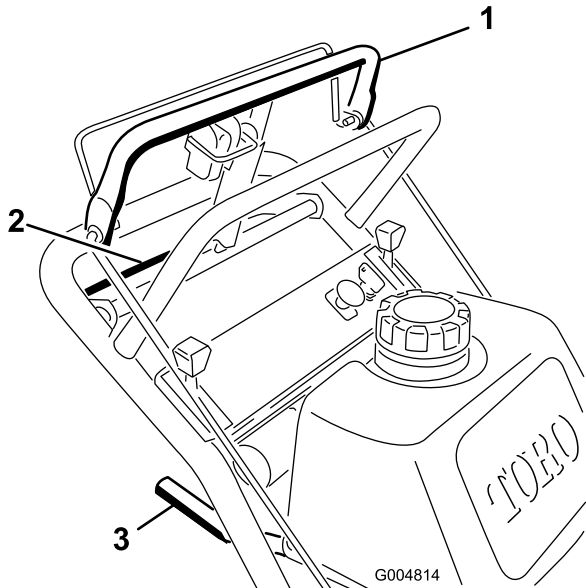
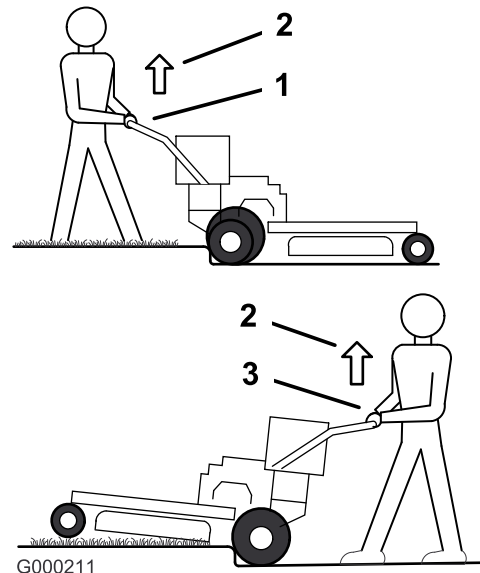

Figure 10
Figure 11
1. To go forward, move the shift lever to a forward gear (Figure 10).
3. Slowly press on the upper control bar to move forward (Figure 10).
To go straight, apply equal pressure to both ends of the upper control bar (Figure 10).
To turn, release pressure on the upper control bar side in the direction you want to turn (Figure 10).
3. Slowly squeeze the lower control bar and lower handle together to move rearward (Figure 10).
3. Drive machine until the castor wheels contact curb (Figure 11).
4. Lift the front of the machine by pushing down on the lower handle (Figure 11).
5. Drive the machine until drive wheels contact the curb (Figure 11).
6. Lower the front of the machine (Figure 11).
7. At the same time engage the lower control bar and lift up on the lower handle to drive over the curb (Figure 10 and Figure 11).
3. Drive the machine until drive wheels contact curb (Figure 11).
4. At the same time engage lower control bar and lift up on the lower handle (Figure 10 and Figure 11).